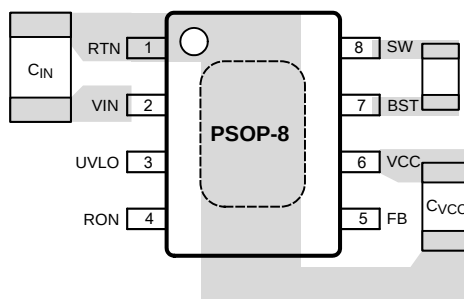

Figure 19. Placement of Bypass Capacitors
1.  $C_{IN}$ : The loop consisting of input capacitor ( $C_{IN}$ ),  $V_{IN}$  pin, and RTN pin carries switching currents. Therefore, the input capacitor should be placed close to the IC, directly across  $V_{IN}$  and RTN pins and the connections to these two pins should be direct to minimize the loop area. In general it is not possible to accommodate all of input capacitance near the IC. A good practice is to use a 0.1 $\mu$ F or 0.47 $\mu$ F capacitor directly across the  $V_{IN}$  and RTN pins close to the IC, and the remaining bulk capacitor as close as possible (Refer to Figure 19 Placement of Bypass Capacitors).
2.  $C_{VCC}$  and  $C_{BST}$ : The  $V_{CC}$  and bootstrap (BST) bypass capacitors supply switching currents to the high and low side gate drivers. These two capacitors should also be placed as close to the IC as possible, and the connecting trace length and loop area should be minimized (See Figure 19 Placement of Bypass Capacitors).